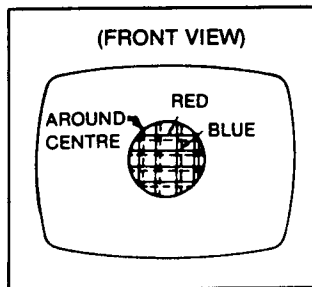

Fig. B-5
3. Rotate the front pair of tabs (four pole convergence magnet) as a unit to minimize the separation of the red and blue lines around the centre of the screen. To adjust the convergence of red and blue, vary the angle between the tabs. (Fig. B-5)